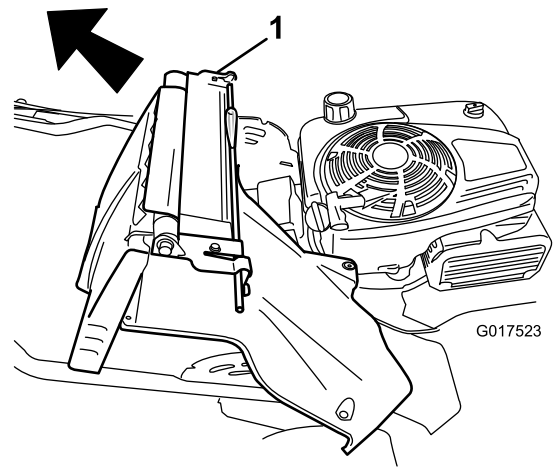

Figure 37
7. Remove the rear door and handle-lock lever assembly (Figure 37).